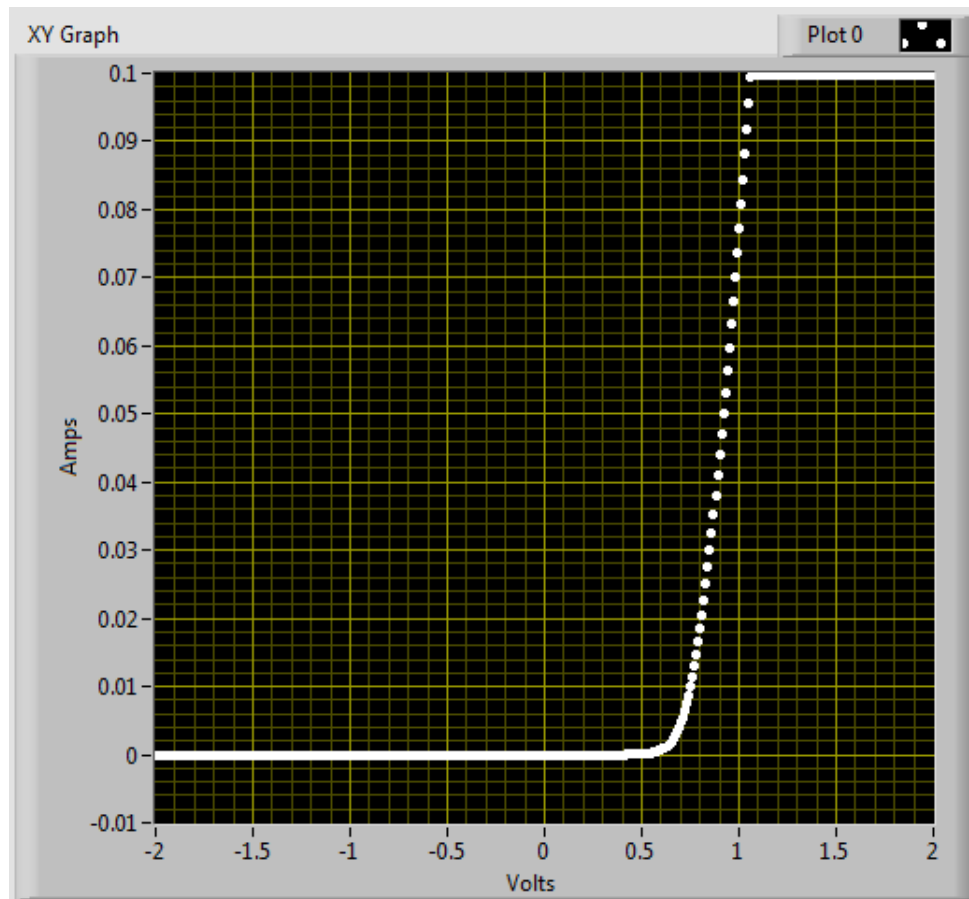

Figure 3: I-V of a diode
5. Check the result of your measurement on the right (An example of the typical I-V of the diode is shown in Figure 3). You could go to the folder where you store the data for further processing and analysis.